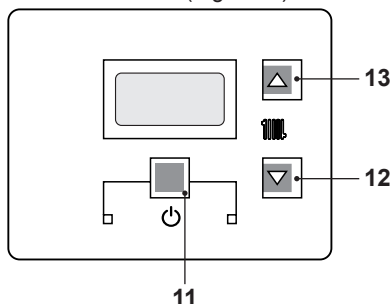
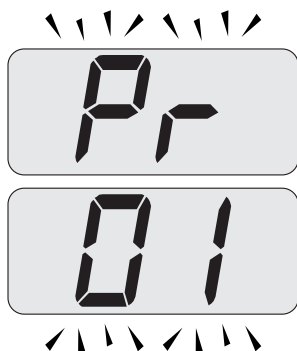
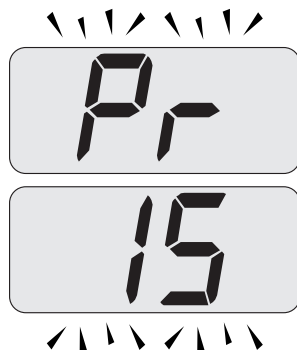

Fig. 7.20
Fig. 7.21
Fig. 7.22
- Enter in "programming mode" by pressing keys 11 - 12 - 13 (Fig. 7.20) for 10 seconds at the same time until the letters **Pr** that alternate with code 01 are displayed on the LCD display, indicating that "parameter 01", has been activated (Fig. 7.21).
- Scroll the various parameters using keys 12 or 13 until the letters **Pr** that alternate with code **15** are displayed on the LCD display, indicating that "parameter 15" (Fig. 7.22) has been activated.
- Press keys 11 and 13 (Fig. 7.20) at the same time until the value of parameter 15 (Fig. 7.23) is displayed on the LCD display.
- By pressing key 11 (Fig. 7.20) confirmation of the inserted value is obtained.
- Press keys 11 and 12 (Fig. 7.20) at the same time to exit without changing the value (return to the parameters list Fig. 7.22).
- Press keys 11 - 12 - 13 (Fig. 7.20) at the same time for 10 seconds to exit the "programming mode".
ing plant can be increased or reduced by $\pm 15^{\circ}\text{C}$ by acting on keys 12 (reduce) and 13 (increase) (Fig. 7.20).